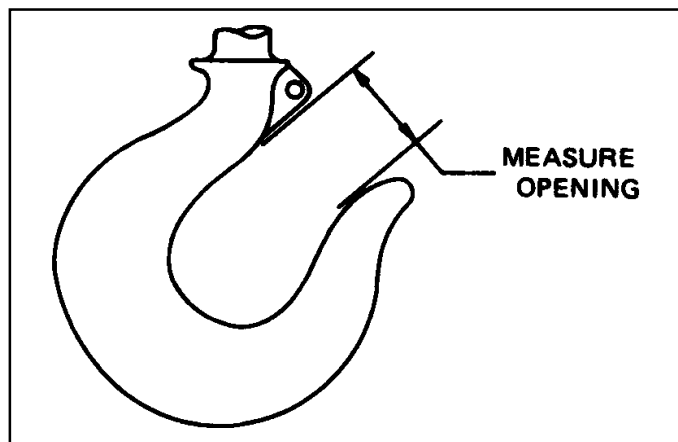

Figure 5-5. Lower Hook Opening
- at. DO NOT operate hoist with hooks that have opened up. See Figures 5-5 and 5-6.
(1) Check for bent or distorted hook. If hook is opened beyond the dimension given in figure 5-5, it must be replaced. Also check to see that hook swivels and is free to pivot. Lubricate these points if necessary.